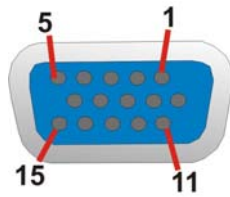

Figure 3-39: VGA Connector
- CN Pinouts:** See **Table 3-36** and **Figure 3-39**